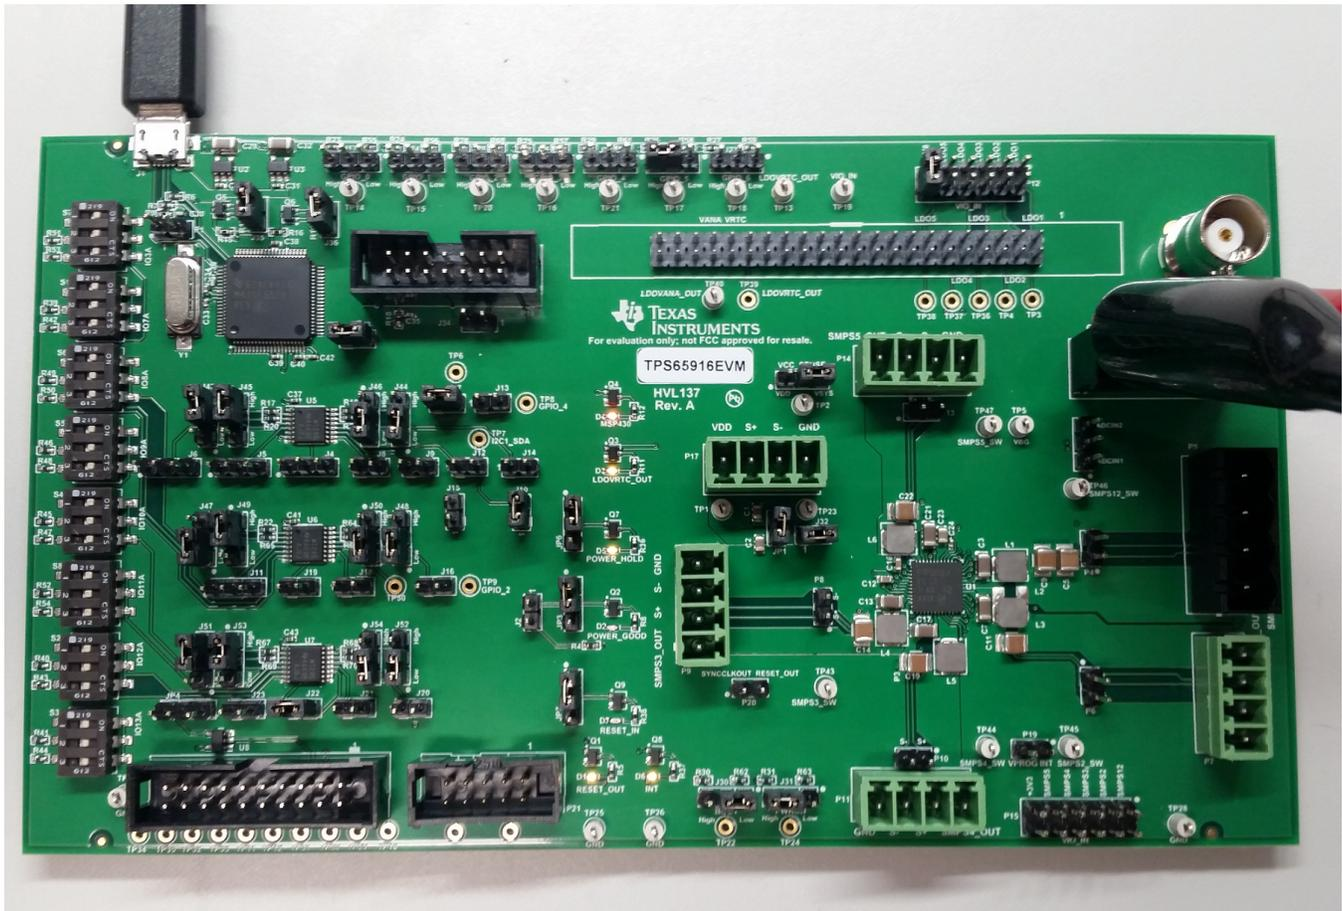

Figure 2. Powered EVM
Power for the MSP430 and the two fixed voltage LDOs (3.3-V and 1.8-V outputs) is supplied through the USB connection, as shown in Figure 2.
5. Set supply voltage to between 3.3 V and 5 V with an appropriate current limit. Turn on supply voltage. The RESET\_OUT LED (D1), LDOVRTC\_OUT LED (D3), POWER\_HOLD LED (D5), LDOVRTC\_OUT, and POWER\_GOOD (D2) should light. See Figure 2.